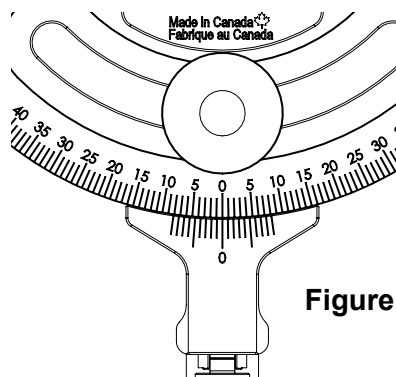

Figure 10
- a. Make sure the gauge is set in the 0 degree position. See **Figure 10**